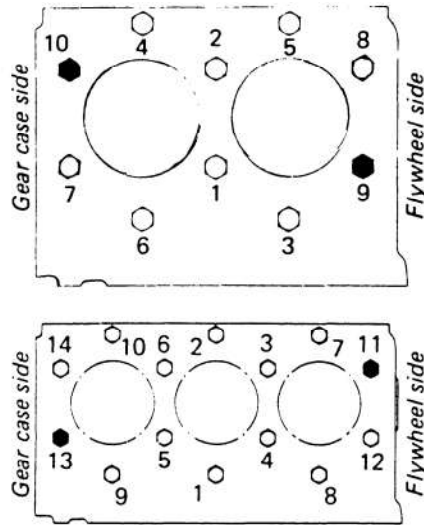

Fig. 22. Tightening of Cylinder Head Bolts
■ Tightening cylinder head capscrews (Fig. 22)
- (1) The tightening torque of the cylinder head capscrews is 31 to 35 ft-lbs. (4.3 to 4.8 kg-m) for Model 15, and 43 to 47 ft-lbs. (6.0 to 6.5 kg-m) for Model 25. Numbers 9, 10 and 11, 13 (◆) in the diagram are studs. The nuts on these studs should also be tightened to this torque.
- (2) All the capscrews must be tightened uniformly. To do this, tighten all the capscrews in the order indicated on the diagram until they are just snug. Then tighten each one 1 (one) turn at a time in this same sequence each time until all have been tightened to the required torque.
- (3) The cylinder head capscrews should be re-tightened if the engine has not been used for a long time. The valve lash should also be adjusted each time the cylinder head capscrews are retorqued. If the cylinder head gasket has been replaced, run the engine for about 30 minutes and re-tighten the cylinder head capscrews as described above.